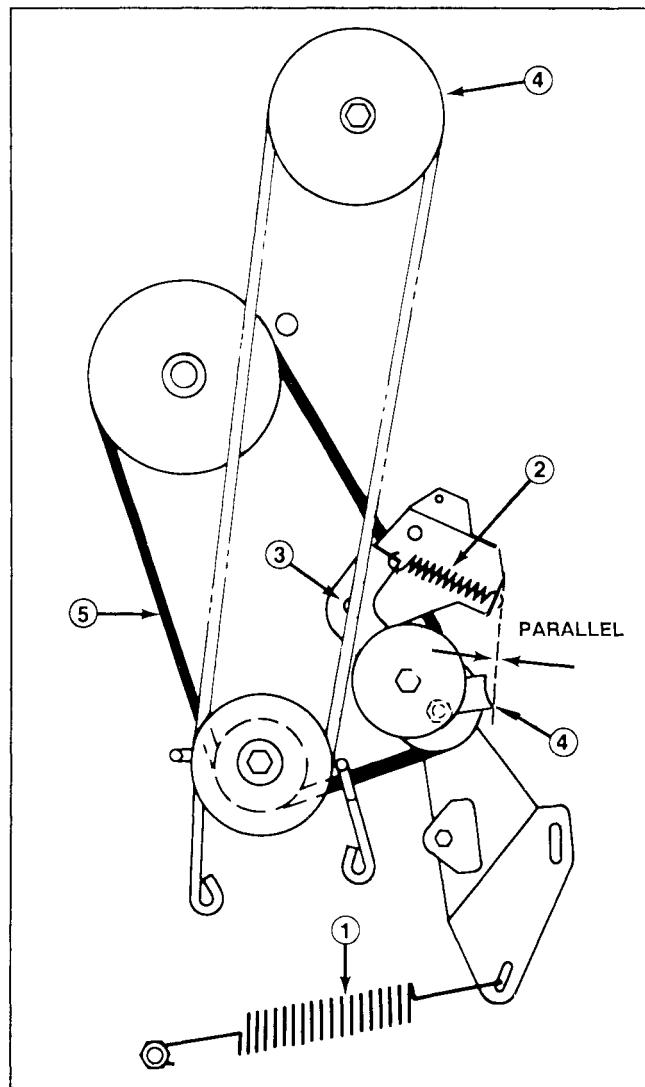

Figure 21
7. Unhook large traction spring from mounting screw (Fig. 21). Use caution when removing spring as it is heavily tensioned.
8. Unhook idler spring from idler bracket (Fig. 21).
9. Remove locknut and washer securing idler bracket to frame and remove bracket (Fig. 21).
10. Loosen the locknut on pulley until belt guide can be removed (Fig. 21). Remove belt from all pulleys.
- Note:** When reinstalling belt guide to idler pulley, make sure edge of belt guide is parallel to frame as shown in Figure 21.